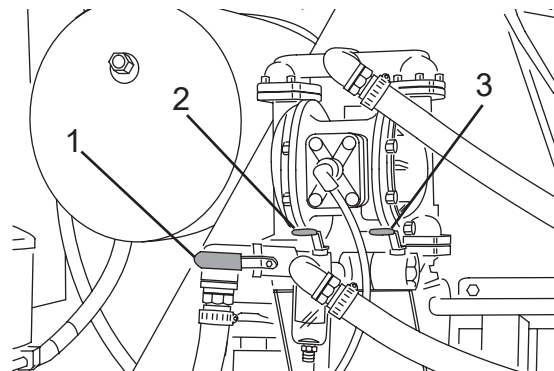

Figure 94
2. Open the main tank ball valve (Figure 94, Item 2) and chemical tank ball valve (Figure 94, Item 1) (if equipped).